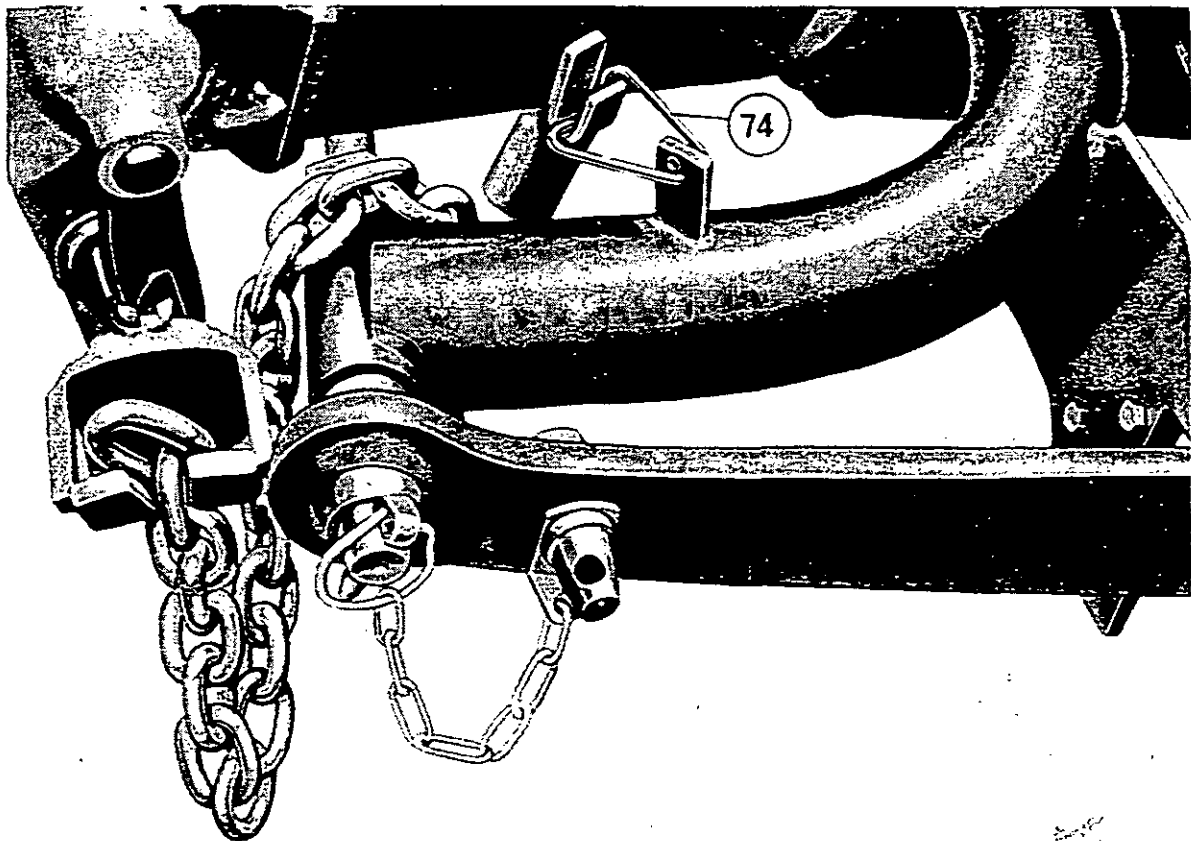

FIG. 36
Fig. 36. If a tractor fitted with the Pressure Control coupler is to be driven without an implement attached, the boom should be stowed by slewing it to the right and engaging the spring clip (74).